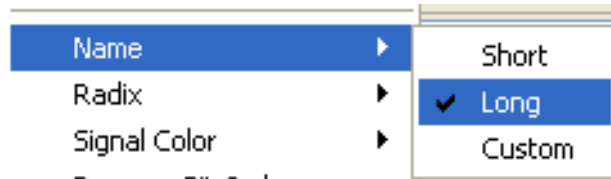

Figure 4-25: Change the Signal Name Format
2. Select Name > **Long**. (Refer to Figure 4-25.)